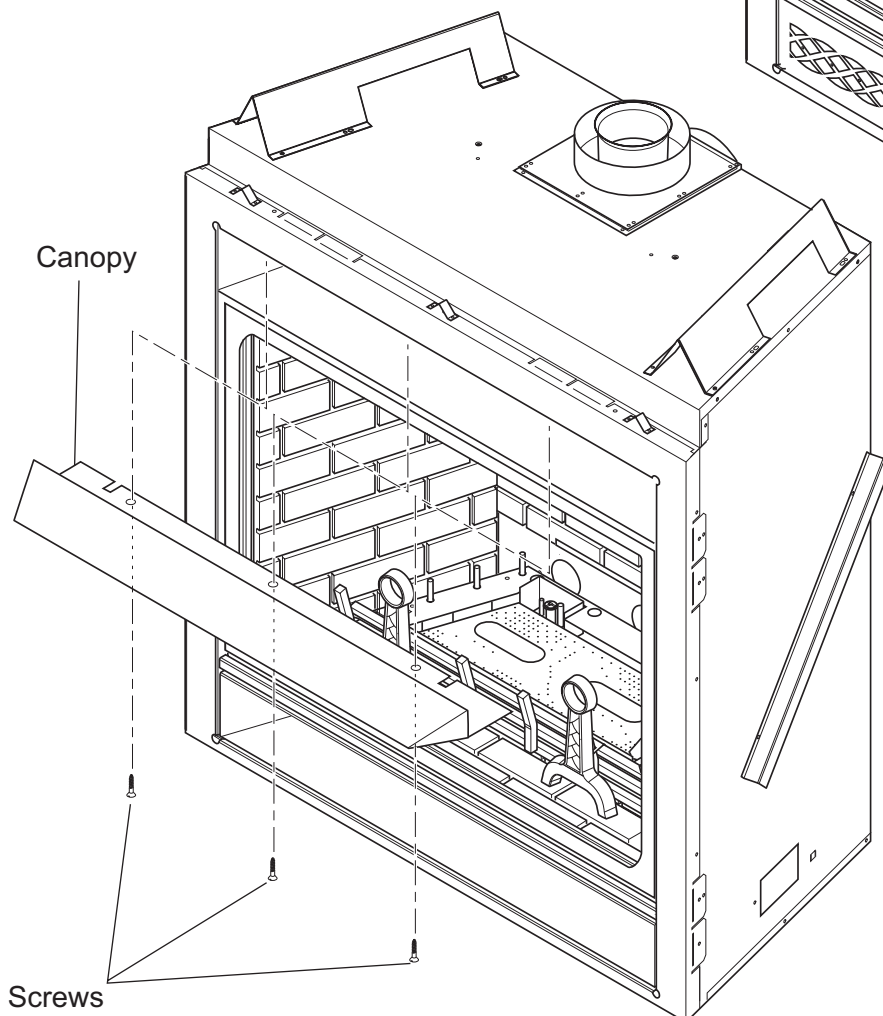

Figure 41 - Installing Canopy
3. Attach canopy to underside of top outer shell with three (3) screws provided. *See Figure 41.*